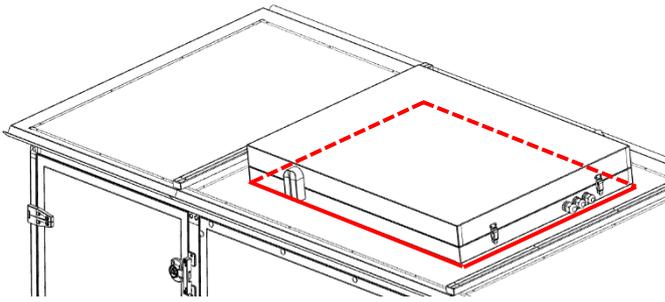

Fig. 126
6. Apply the silicone to edge of the electrical box (Fig. 126)